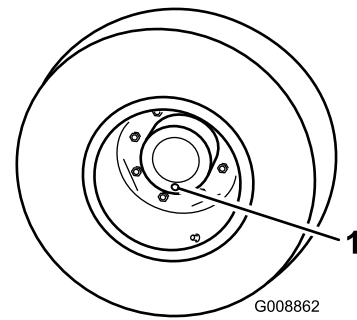

Figure 88
1. With the machine on a level surface, position a wheel so that one of the check plugs is at the lowest (6 o'clock) position (Figure 88).